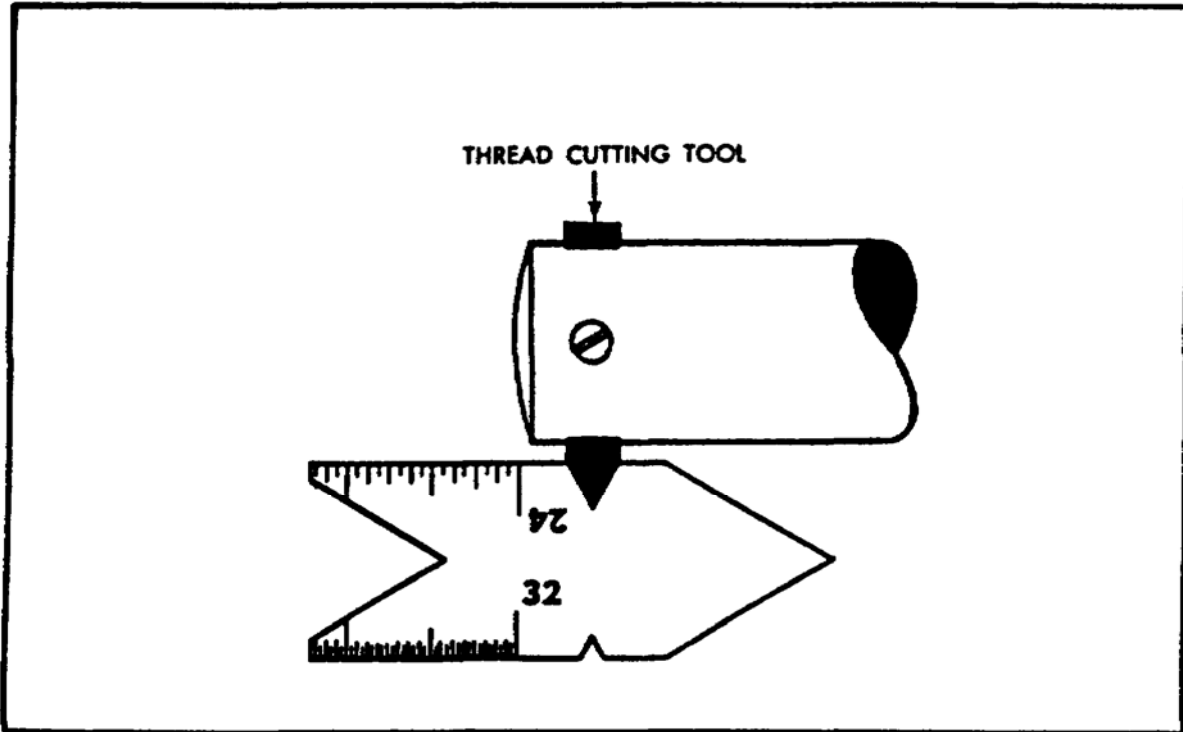

FIGURE 207. USING CENTER GAGE.
(1) *Center Gage*. Check the angle of thread cutting tools as shown in figure 207. The gage is also used to check cut threads and the scales are used to measure threads per inch.